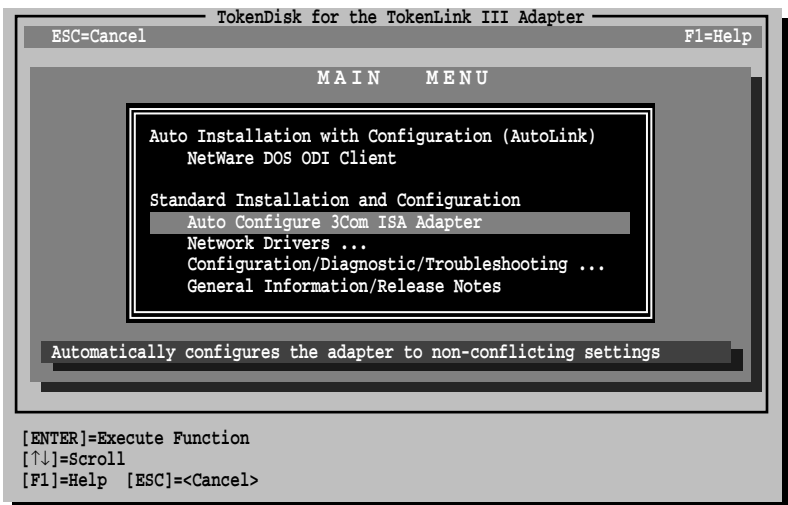

Figure 4-2 Main Window with Auto Configure Selected
- 7 When the main menu shown in Figure 4-2 appears, select Auto Configure 3Com ISA Adapter.